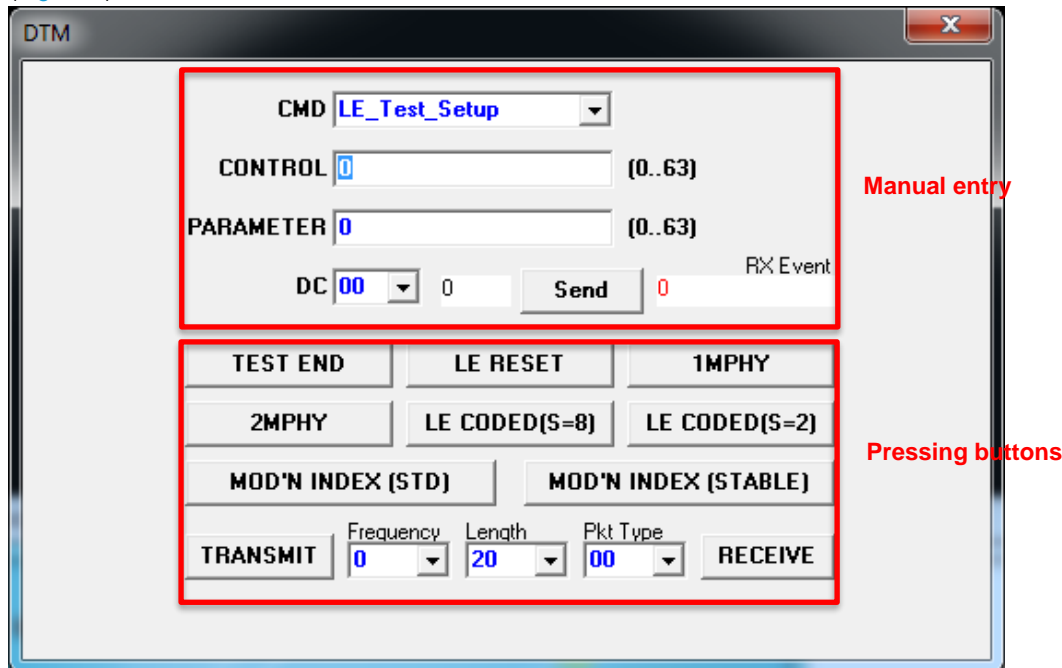

Figure 8: Opening the Direct Test Mode panel in BleDtmRfTool
3. In BleDtmRfTool DTM panel, there are two ways to use BleDtmRfTool, either manual entry or pressing buttons (Figure 8).